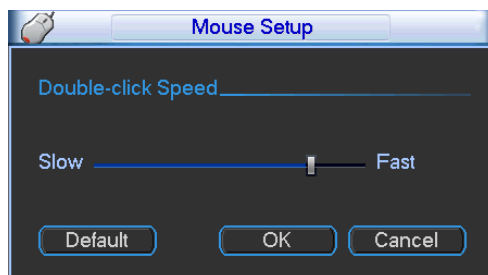

Figure 4-26
- Mouse property: Click mouse setup button, you can go to mouse setup interface. See Figure 4-26. You can set double click speed via dragging the slide bard. You can Click Default button to restore default setup.